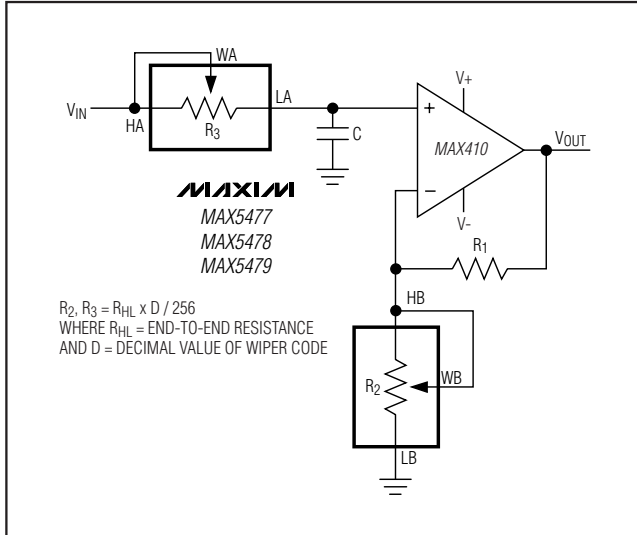

Figure 11. Programmable Filter
Figure 11 shows the MAX5477/MAX5478/MAX5479 in a 1st-order programmable application filter. Adjust the gain of the filter with R₂, and set the cutoff frequency with R₃. Use the following equations to calculate the gain (A) and the -3dB cutoff frequency (f_C):